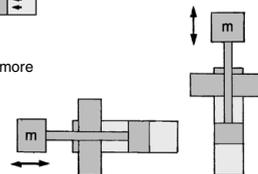

Fig. 2 $\eta = 0.5$ or less
- 2) Using the cylinder for dynamic operation: load ratio $\eta = 0.5$ (Fig. 2)